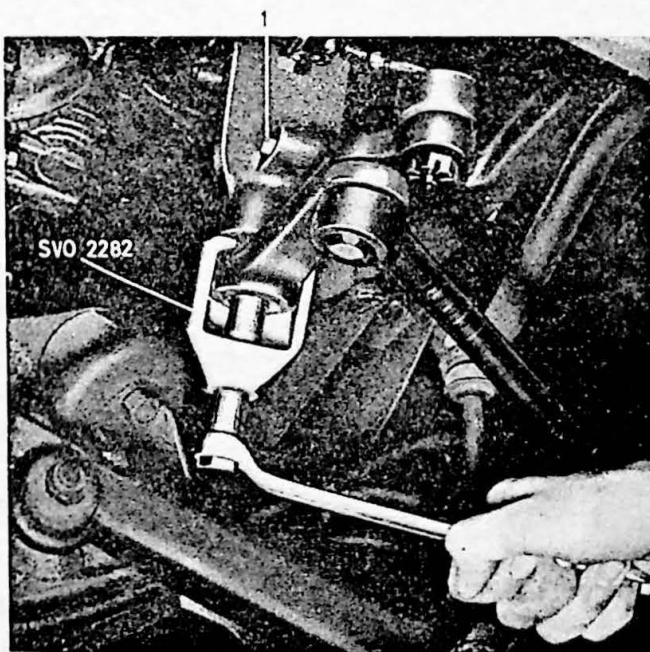

Fig. 6-4. Removing the pitman arm
6. Remove the pitman arm using puller SVO 2282 (Fig. 6-4).